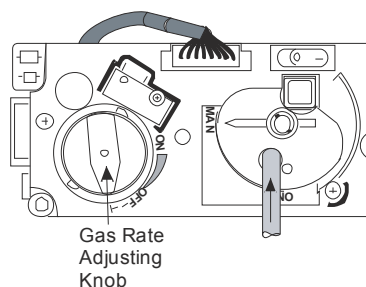

Figure 17
4. Using a rigid slender object (like a screwdriver) depress the pilot valve operator through the large hole in the knob (see **Figure 17**) and light the pilot using a match or lighted taper.
9. To turn the pilot off place the **ON/OFF** switch to **OFF (O)** position.